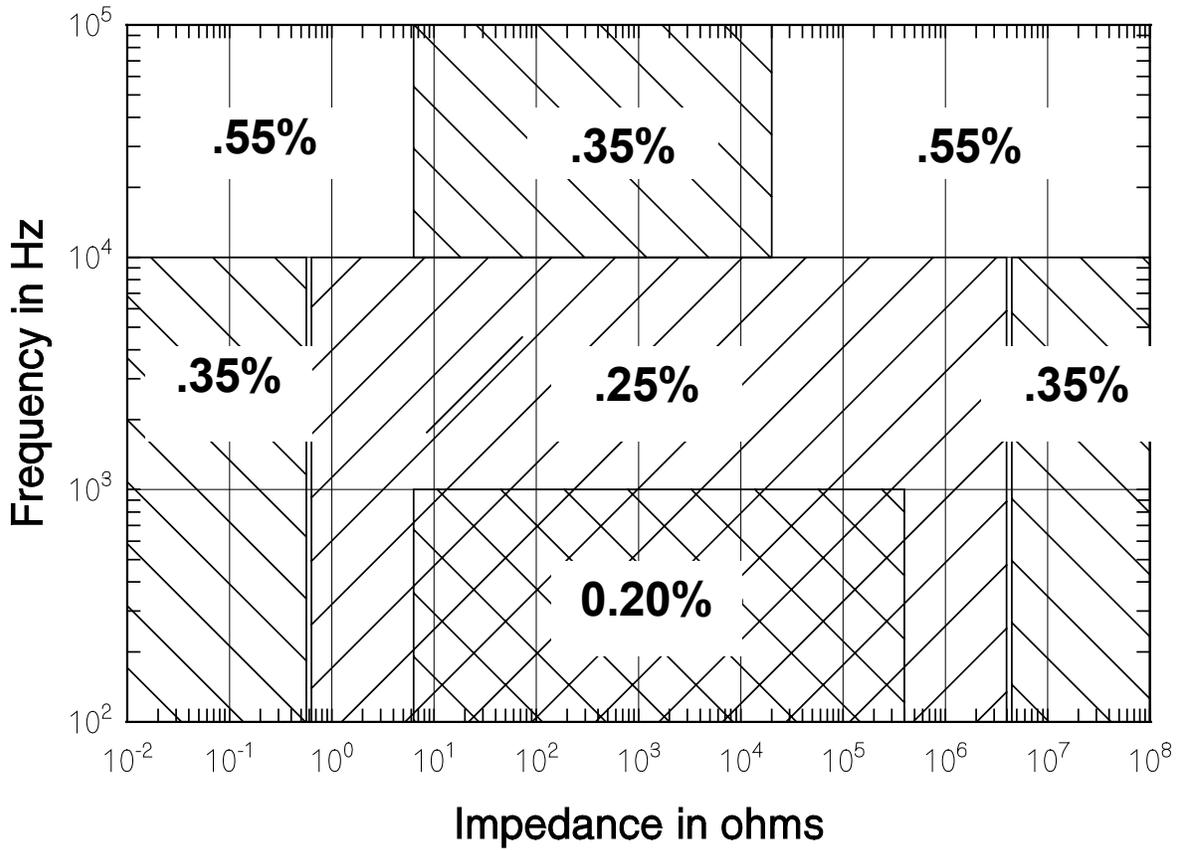
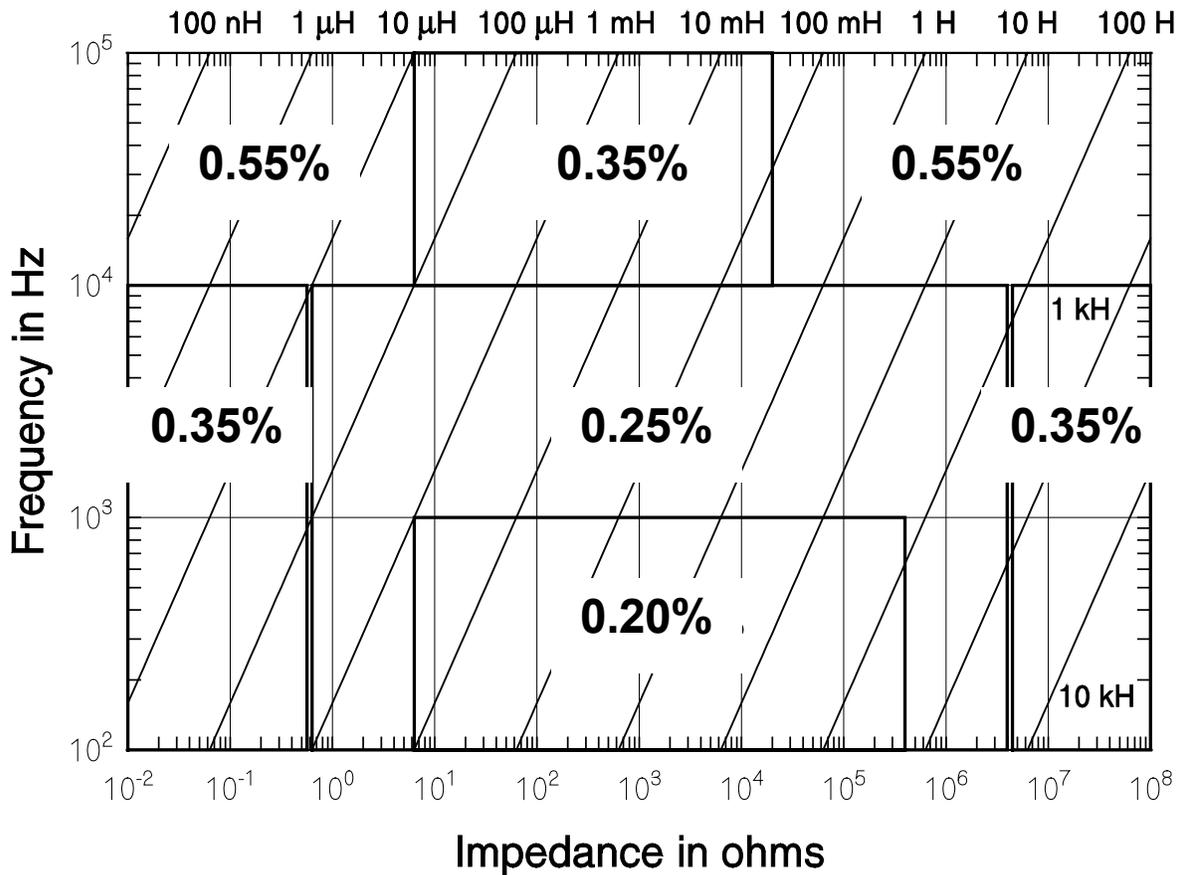
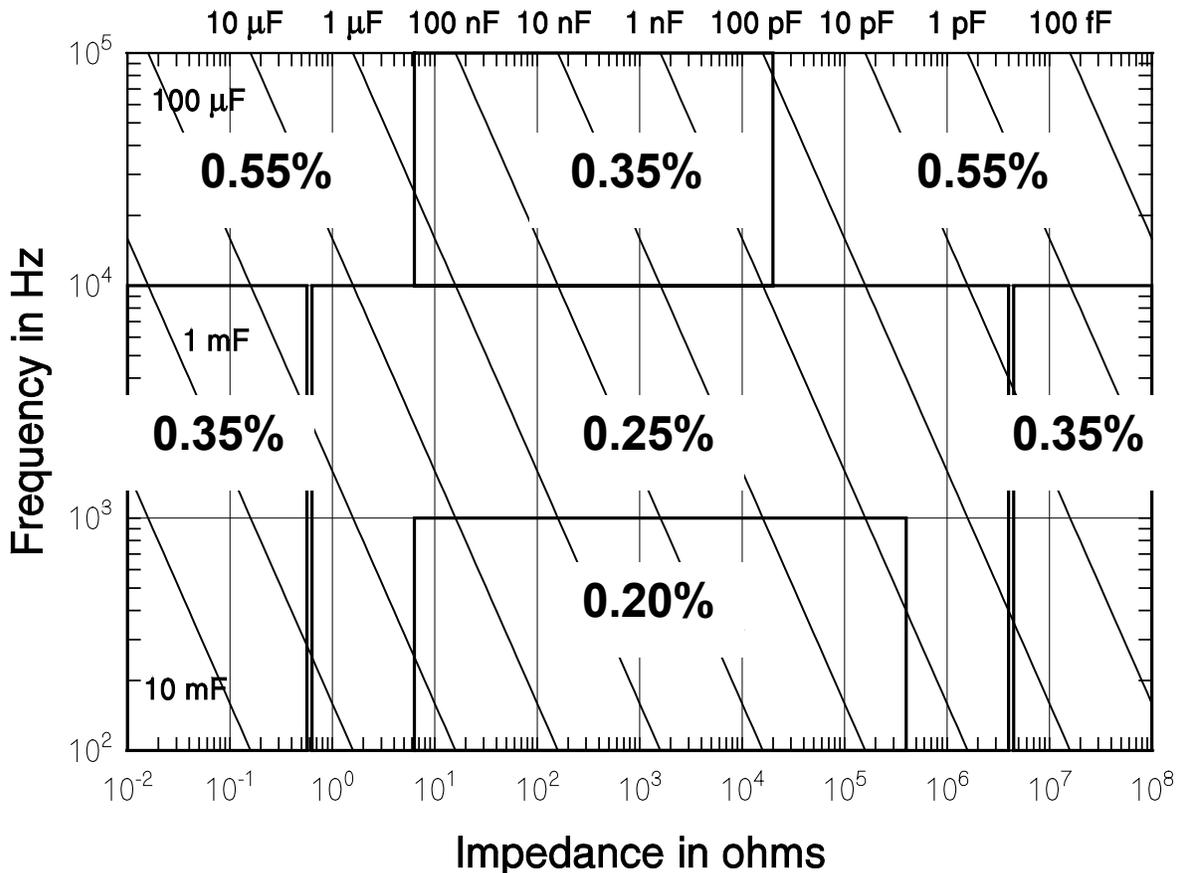

Figure 2-1 Basic Impedance Accuracy
Figure 2-2 Basic Impedance Accuracy for Inductance
Figure 2-3 Basic Impedance Accuracy for Capacitances
A_z = the basic impedance accuracy from Figure 2-1, which should be multiplied by two if the unit is in constant voltage mode. Figure 2-1 is based on the fact that the best accuracy occurs when the impedance to be measured is greater than $\frac{1}{4}$ the source resistance and less than 4 times that resistance, and when the test frequency is 1 kHz or less.
In the R + Q measurement mode, the basic impedance accuracy, A_z , in equation (1), may be read from Figure 2-1 directly while interpreting the “impedance” as “resistance.” The resistance accuracy is calculated from equation (2a), with the additional stipulation that if the measured Q has an absolute value greater than 0.1, then the basic resistance accuracy factor should be multiplied by the factor $(1 + |Q|)$.
Where $A_{r(\text{measured})} \%$ is the measured or published resistance accuracy and A_r is the basic resistance accuracy. The basic resistance accuracy, A_r , which can be taken from Figure 2-1 by substituting impedance, Z, with resistance, R.
The basic impedance accuracy depicted in Figure 2-1 applies to inductance measurements when the impedance is interpreted to be $2\pi fL$, where f is the test frequency in Hz and L is the inductance in Henrys. For convenience, Figure 2-1 is redrawn as Figure 2-2 with lines of constant inductance superimposed. Also, Table 2-3 is recreated for inductive impedances and named as Table 2-4. Note from Table 2-4 that the range error factor K_i is negligible for inductances above $15.9/f$ H and K_h is negligible for inductances below $159/f$ H.
The basic impedance accuracy depicted in Figure 2-1 applies to capacitance measurements when the impedance is interpreted to be $1/2\pi f C$, where f is the test frequency in Hz and C is the capacitance in Farads. For convenience, Figure 2-1 is redrawn in Figure 2-3 with lines of constant capacitance superimposed. Also, Table 2-3 is recreated for capacitive impedances as Table 2-5. Note from Table 2-5 that the range error factor K_i is negligible for capacitances below $1590/f \mu\text{F}$ and K_h is negligible for capacitances above $159/f \mu\text{F}$.
The basic impedance accuracy depicted in Figure 2-1 applies to capacitance measurements when the impedance is interpreted to be $1/2\pi f C$, where f is the test frequency in Hz and C is the capacitance in Farads. For convenience, Figure 2-1 is redrawn in Figure 2-3 with lines of constant capacitance superimposed. Also, Table 2-3 is recreated for capacitive impedances in the C + R measurement mode as Table 2-6. Note from Table 2-6 that the range error factor K_l is negligible for capacitances below $1590/f \mu\text{F}$